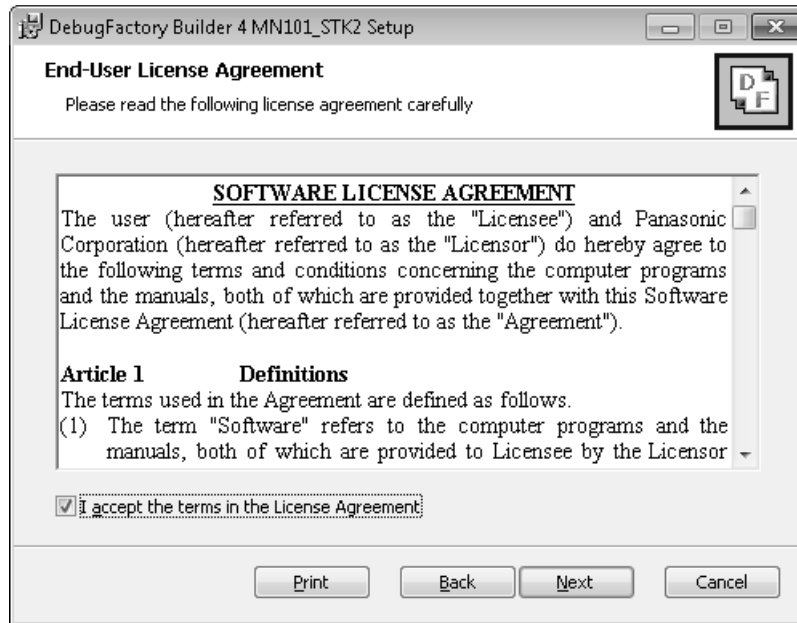

Figure 2.1.4 Licence agreement of AM13L\_STK2
4. The dialog shown in Figure 2.1.4 appears. Confirm the software license agreement, and click <Next>.